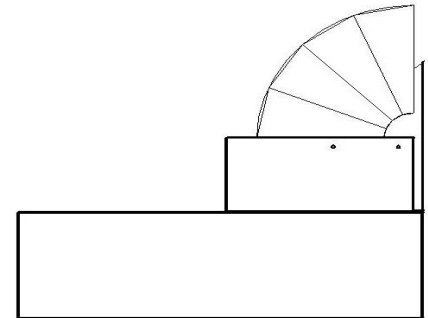

Fig. 2
*The AL-T7200 Heat Versa Hood is extremely versatile. You can easily convert the Versa Hood to be rear discharge by attaching a 10" round elbow to the Versa Hood start collar (see Fig. 2). DO NOT USE flex duct as it can create turbulence and diminish the hood's performance. Use a high quality foil duct tape to seal the connection and avoid vibration. Be sure to mount the Versa Hood with adequate clearance from ceiling to allow for height of elbow used for rear discharge. These 10" elbows can be purchased at many Home and Hardware stores for a nominal cost.